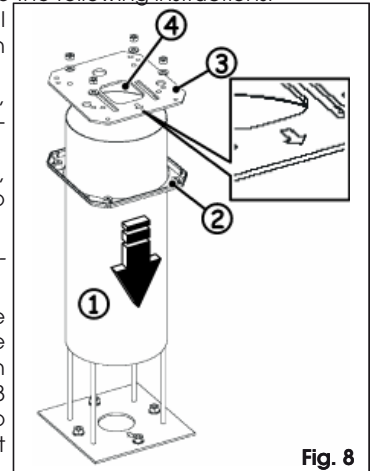

Fig. 8
2. Position the support tube, (Fig.8 ref.①), on the foundation plate.
3. Insert the plastic housing, (Fig.8 ref.②) and leave it to rest on the ground.
4. Position the upper plate (Fig.8 ref.③) routing the connection cables through the square pocket (Fig.8 ref.④) and allow them to come out for a length of at least 600 mm.